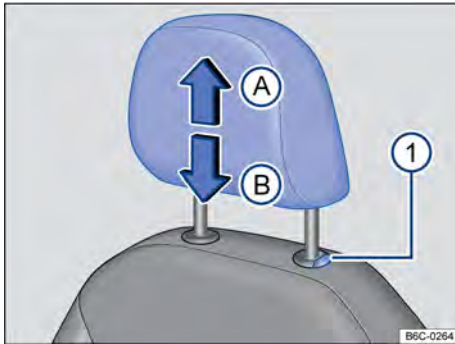

Fig. 68 Headrest: adjusting, uninstalling and installing.
- Move the headrest up (A) or down (B) in the direction of the arrow with the button → Fig. 68 ❶ held down → ▲ in Introduction on page 76.
- Removing the headrest with the button → Fig. 68 ❶ pressed in the direction of the arrow (A).
- Push the headrest all the way down in the direction of the arrow (B) with the button → Fig. 68 ❶ held down.
- Push the headrest down with the button in the direction of the arrow (B) → Fig. 68 ❶ held down.